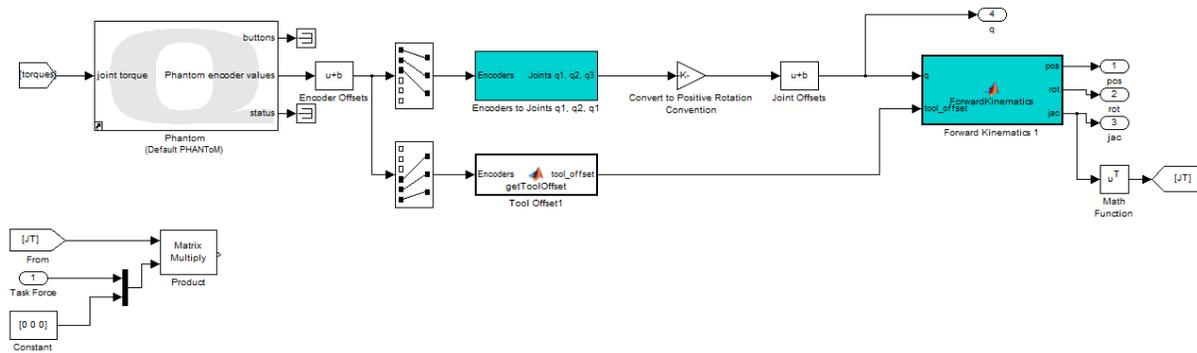

Figure 9.1: Force rendering model
5. According to Equation 9.1, J^T is a 3×6 matrix and F must be an array of six elements. However the task space forces are only 3-dimensional. Create an input port for task space force (call it *Task Force*) and use a **Mux** to concatenate it with a zero array of three elements representing dummy task space torques. Now the force can be multiplied with the jacobian transpose to get torques. Your model should resemble Figure 9.1.